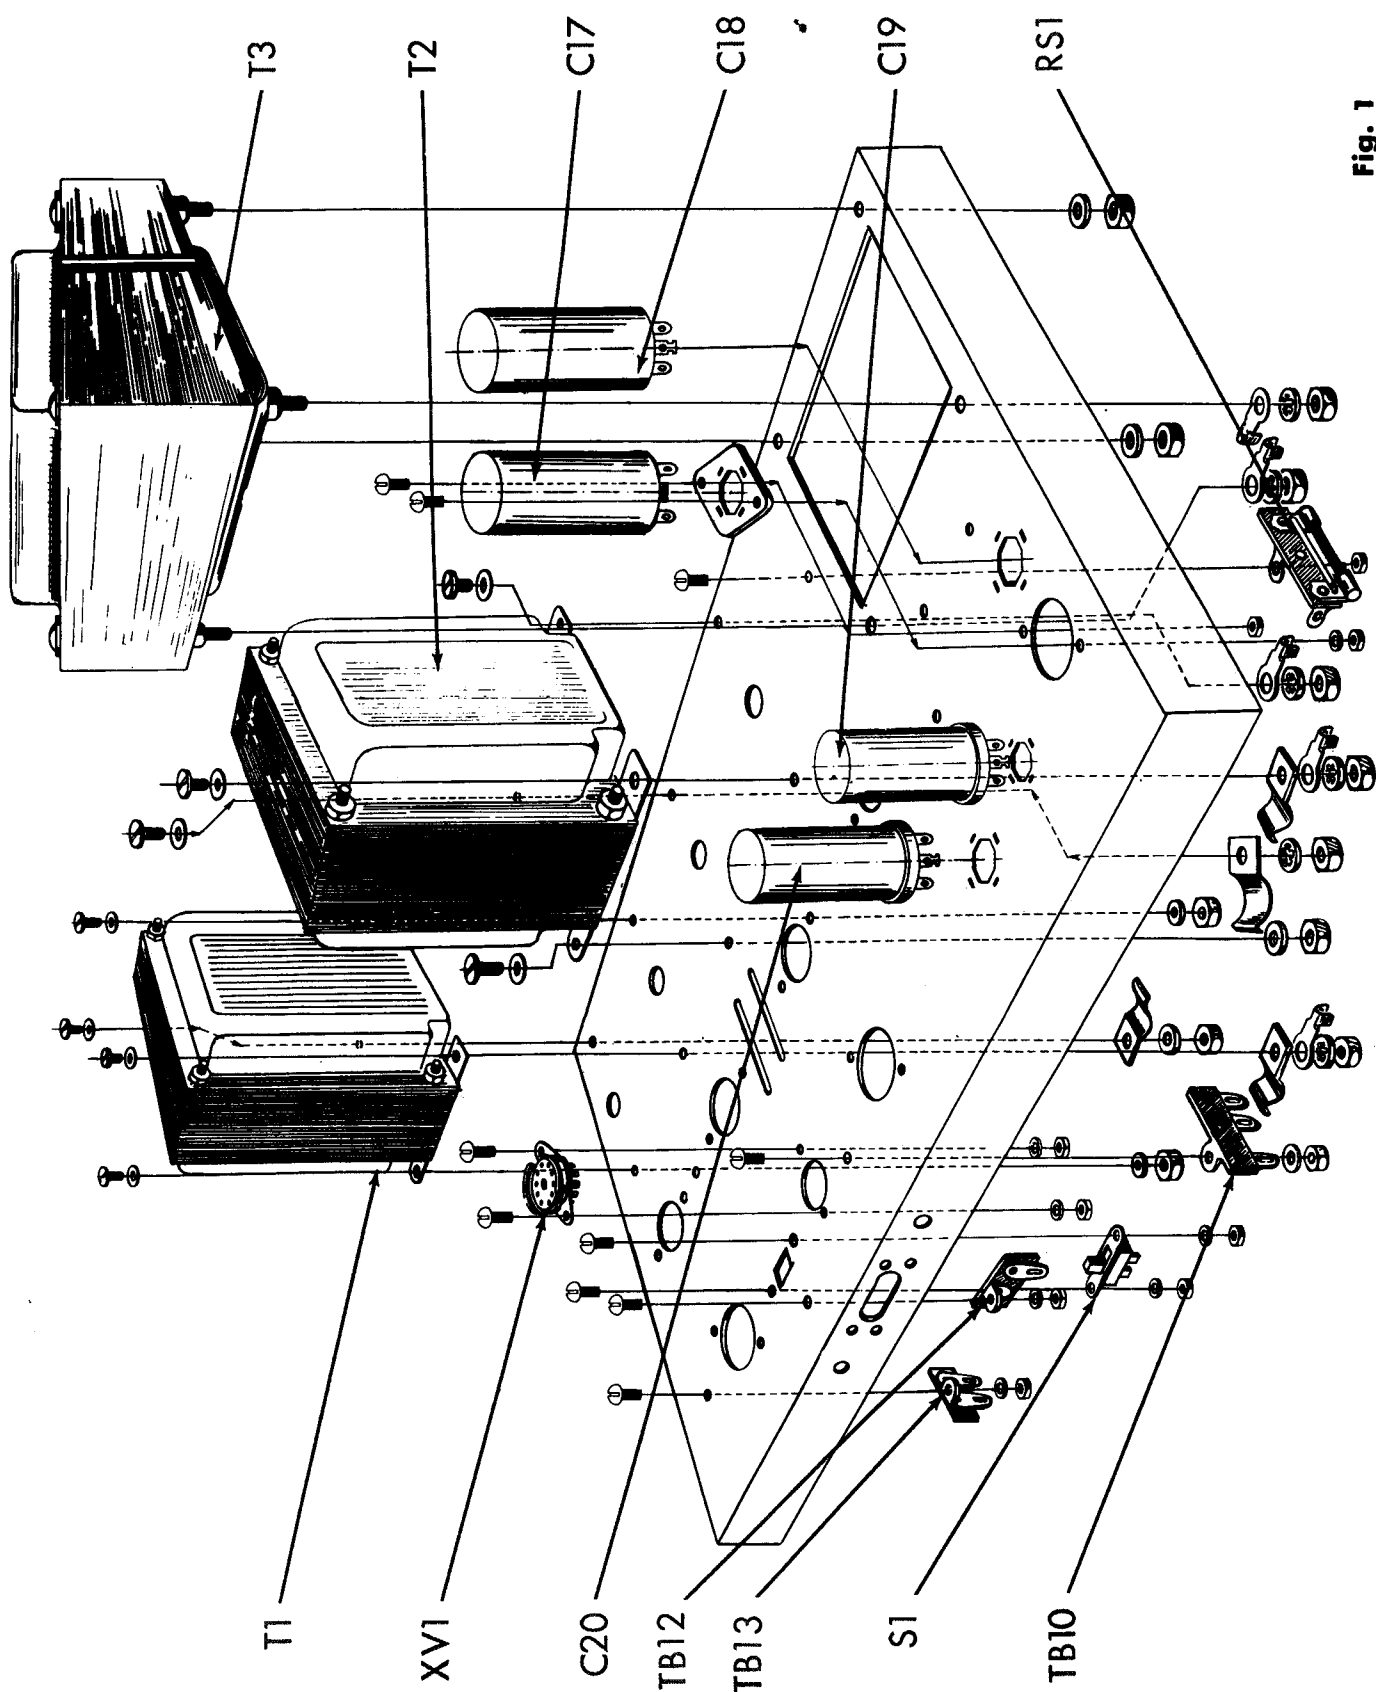
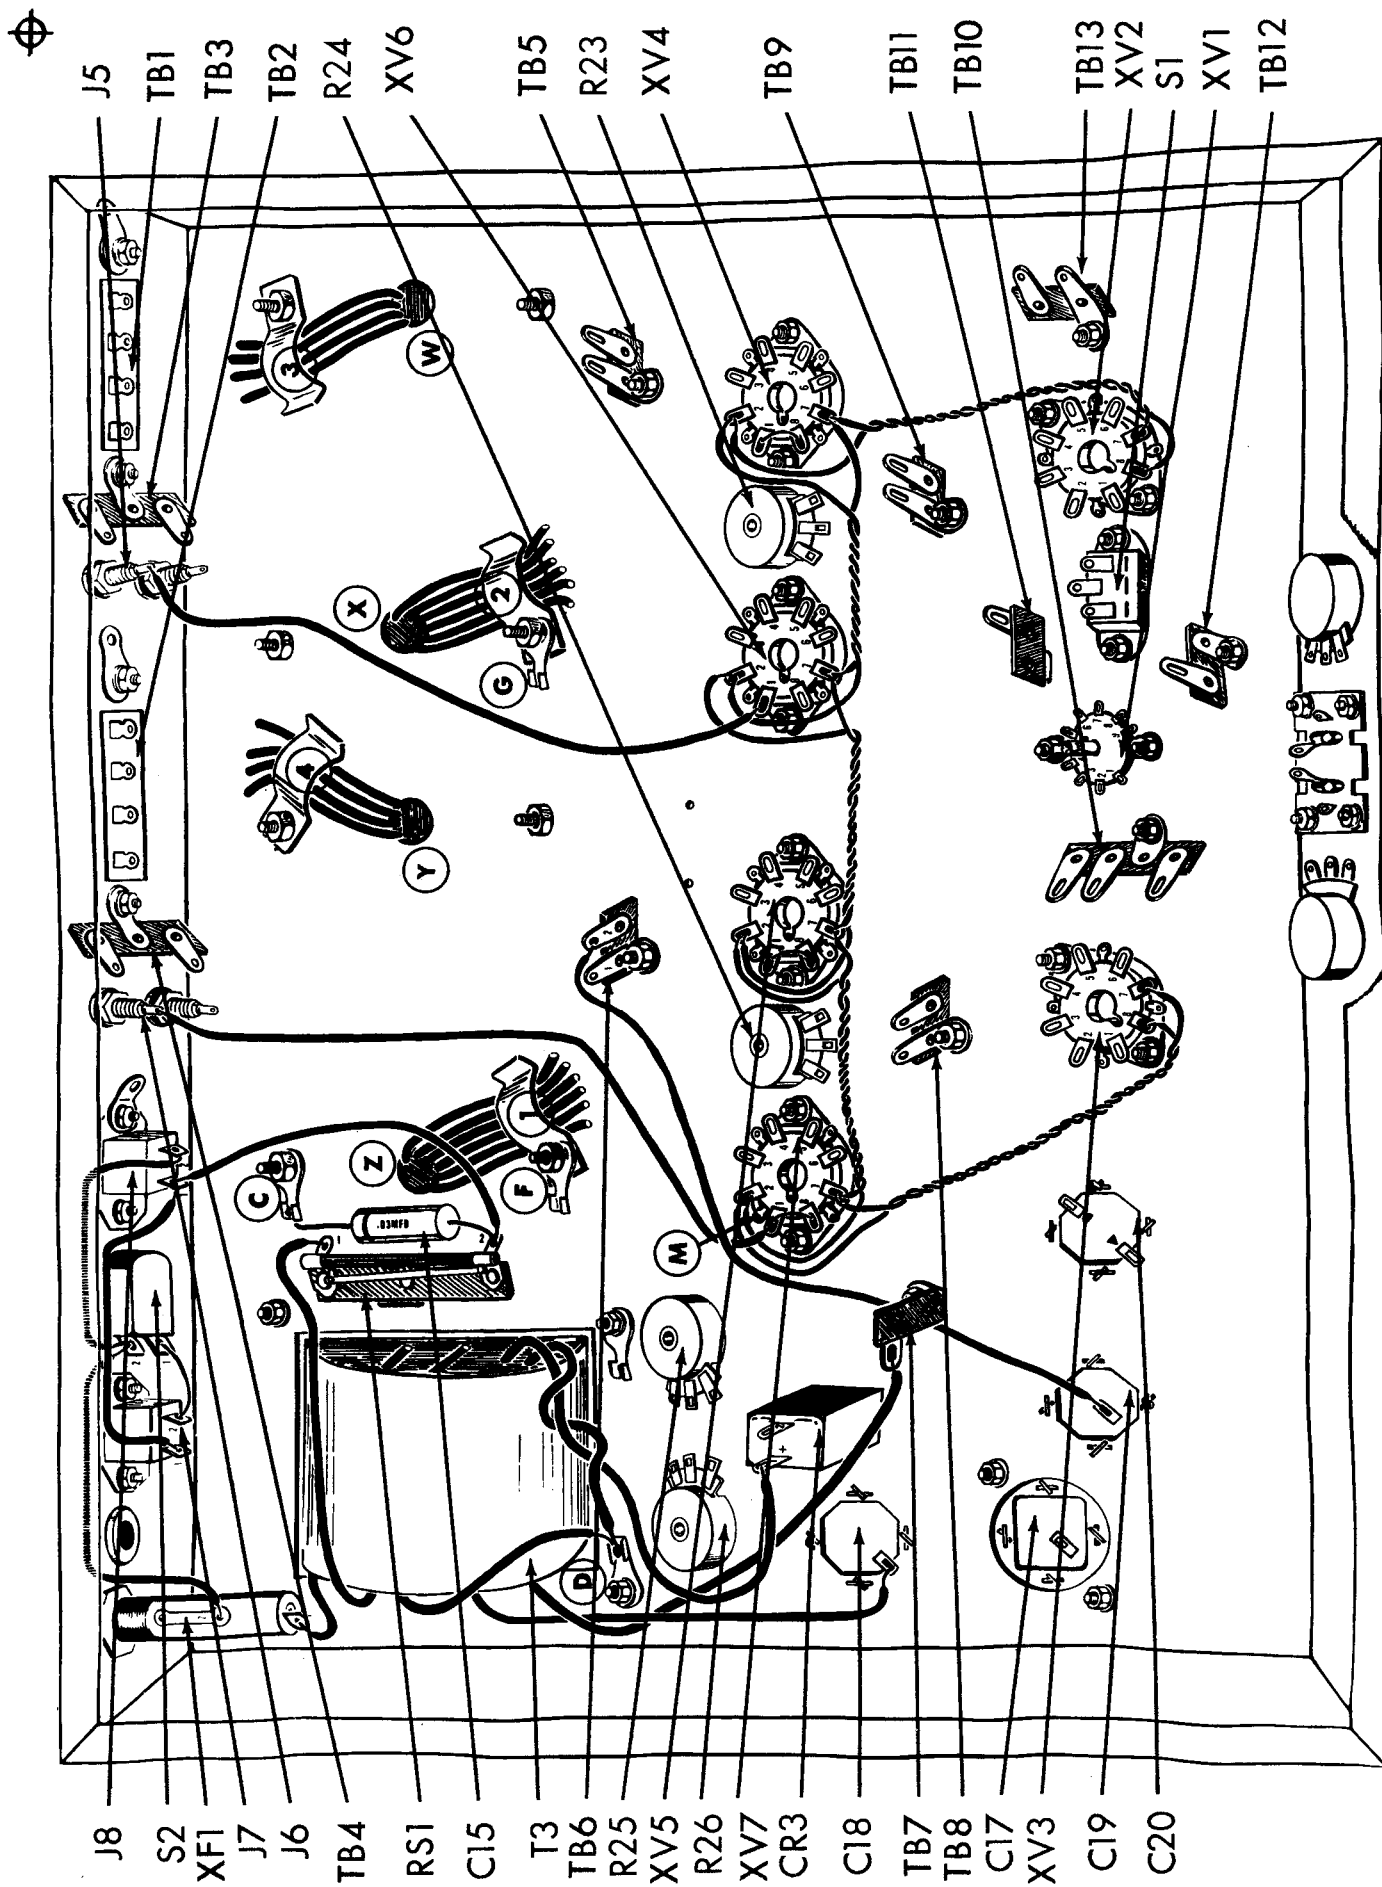

Fig. 1
Fig. 3
( ) 1. Fig. 1. On power transformer T3, cut both green leads to 6", one red lead to 6", the other red lead to 7", the white lead to 3", one black lead to 2", the other black lead to 4", one blue lead to 4" and the second blue lead to 6 1/2". On each of these leads strip the insulation back 1/4". Mount the transformer as shown with the green leads toward the center of the chassis and the black leads close to the side of the chassis. Use four #8 lockwashers and four #8-32 hex nuts to secure the transformer to the chassis. Under each of two of the lockwashers, mount a #8 ground lug, as shown in Figure 3.
( ) 2. Fig. 1. On both output transformers T1 and T2, cut the black lead to 4", the white lead to 4 1/2", the green lead to 5" and the yellow lead to 5 1/2". Cut the blue and blue-yel. leads to 4 1/2" and the brown and brown-yel. to 5 1/2" and the red and red-yellow leads to 6". Strip the insulation back 1/4" from the ends of each of the leads. Mount transformer T2 with black, brown, green, and yellow leads going through hole "Y" and all the remaining leads going through hole "Z". Secure the transformer to the chassis using four #10-32 screws and four #10 flat washers from above the chassis and four #10 lockwashers and four #10-32 hex nuts from below the chassis. Noting the orientation in figure 3, under one of the lockwashers used in the mounting of T2, place cable clamp #1 and the #10 ground lug "F". Run the leads from hole "Z" under this cable clamp #1. Under a second lockwasher used in the mounting of T2, place cable clamp #4. Run the leads from hole "Y" under this cable clamp #4. Mount ground lug "C" under one of the remaining lockwashers used for the mounting of T2 as indicated in the figure.
Mount transformer T1 with the black, white, green and yellow leads going through hole "W" and the remaining leads going through hole "X". Secure the transformer to the chassis using four #10-32 screws and four #10 flat washers from above the chassis and four #10 lockwashers and four #10-32 hex nuts from below the chassis. Noting the orientation in figure 3, under one of the lockwashers used in the mounting of T1, place cable clamp #2 and the #10 ground lug "G". Run the leads from hole "X" under this cable clamp #2. Under a second lockwasher used in the mounting of T3, place cable clamp #3. Run the leads from hole "W" under this cable clamp #3.
( ) 3. Fig. 1. Mount the single pole double throw slide switch S1, from below the chassis, as shown. See figure #3 for orientation. Use two #6-32 screws, two #6 lockwashers and two #6-32 hex nuts.
( ) 4. Fig. 1. From below the chassis, mount the 3 post 2 right terminal strip, TB10; the one post left terminal strip, TB12; and the one post left
with ground terminal strip, TB13, as shown. Orient these terminal strips as shown in figure 3. Use one #6-32 screw, one #6 lockwasher and one #6 hex nut to secure each terminal strip to the chassis.
( ) 5. Fig. 1. Mount the 9 pin miniature socket with shield support XV1, from above the chassis, as shown. Use two #4-40 screws, two #4 lockwashers and two #4-40 hex nuts. Note the orientation of this socket in figure #3.
( ) 6. Fig. 1. Mount the bakelite capacitor mounting plate for C17 from above the chassis, as shown. Use two #6-32 screws, two #6 lockwashers and two #6-32 hex nuts.
( ) 7. Fig. 1. Into the slots in the bakelite capacitor mounting plate (mounted in step #6) insert the tabs from the 300ufd, 300V electrolytic can capacitor, C17. Note the orientation of this capacitor in figure #3. Twist the tabs somewhat less than a quarter turn. Do not twist the tabs excessively or they will shear off. Take precautions so that the tabs used to secure the capacitor to the bakelite will not short against the surrounding metal chassis.
( ) 8. Fig. 1. Mount the 300mf 300 volt electrolytic capacitor C18, as shown. Note the orientation in figure #3. Insert the capacitor mounting tabs into the slots in the chassis and twist the tabs a little less than a quarter turn. Do not twist the tabs excessively or they will shear off. Solder the capacitor tab without a hole to the chassis at the slot in the chassis.
( ) 9. Fig. 1. Mount the 80mf 500 volt electrolytic capacitor C19, as shown. Note the orientation in figure #3. Insert the capacitor mounting tabs into the slots in the chassis and twist the tabs a little less than a quarter turn. Do not twist the tabs excessively or they will shear off. Solder the capacitor tab without a hole, to the chassis at the slot in the chassis.
( ) 10. Fig. 1. Mount the 40-20mfd/500 volt electrolytic capacitor C20, as shown. Note the orientation of the capacitor (half-moon and triangle) in figure #3. Insert the capacitor mounting tabs into the slots in the chassis and twist the tabs a little less than a quarter turn. Do not twist the tabs excessively or they will shear off. Solder the capacitor tabs without a hole to the chassis at the slot in the chassis.
( ) 11. Fig. 1. Mount the surgeistor RS-1, as shown. Use one #6-32 screw, one #6 lockwasher and one #6 hex nut to secure this component to the chassis. Note the orientation in figure #3.
- ( ) 1. Fig. 3. Connect an 8 1/2" piece of red wire from C19 (C) to TB6-2 (C). Run this lead along the chassis as shown.
- ( ) 2. Fig. 3. From power transformer, T3, connect the white lead to ground lug "D" (C), the short black lead to XF1-1 (C) and the longer black lead to RS1-1 (C). Twist the two red leads together as shown. Connect one red lead to C18 (C) and the second red lead to TB7 (C). Twist the two blue leads together. Connect one blue lead to ground lug "D" (S2) and the second blue lead to CR3-1 (S1). Do not use excessive heat when soldering to CR3.
- ( ) 3. Fig. 3. Connect a 4 1/2" piece of grey wire from XF1-2 (S1) to S2-2 (C).
- ( ) 4. Fig. 3. Connect a 4" piece of gray wire from S2-2 (S2) to J8-2 (S1).
- ( ) 5. Fig. 3. Connect a 1 1/4" piece of bare wire from J7-2 (C) to S2-1 (S1).
- ( ) 6. Fig. 3. Connect a 5" piece of gray wire from J7-1 (C) to J8-1 (C).
- ( ) 7. Fig. 3. Connect a 4" piece of grey wire from J8-1 (S2) to RS1-2 (C).
- ( ) 8. Fig. 3. Cut both leads on a .03mfd (orange, black, orange, black, blue) molded capacitor C15 to 1". Connect one lead to RS1-2 (S2) and the second lead to ground lug "C" (S1).
- ( ) 9. Fig. 3. Connect one end of a six inch piece of yellow wire to XV4-2 (C) and one end of a 5" piece of brown wire to XV4-7 (C). Twist the two leads together and run them along the chassis as shown. Connect the other end of the yellow wire to XV2-7 (S1) and the other end of the brown wire to XV2-8 (S1).
- ( ) 10. Fig. 3. Connect one end of a 7" piece of yellow wire to XV4-2 (S2) and one end of a 4" piece of brown wire to XV4-7 (S2). Twist the two leads together and run them along the chassis as shown. Connect the remaining end of the yellow wire to XV6-2 (C) and the other end of the brown wire to XV6-7 (C).
- ( ) 11. Fig. 3. Connect one side of a 7" piece of yellow wire to XV6-2 (S2) and one side of a 4" piece of brown wire to XV6-7 (S2). Twist the leads together and run them along the chassis as shown. Connect the other end of the yellow wire to XV5-2 (C) and the other end of the brown wire to XV5-7 (C).
- ( ) 12. Fig. 3. Connect one end of a 7" piece of yellow wire to XV5-2 (S2) and one end of a 4" piece of brown wire to XV5-7 (S2). Twist the two leads together and run them along the chassis as shown. Connect the other end of the yellow wire to XV7-2 (C) and the other end of the brown wire to XV7-7 (C).
- ( ) 13. Fig. 3. Connect one end of an 8" piece of yellow wire to XV7-2 (C) and one end of a 7" piece of brown wire to XV7-7 (C). Twist the two leads together and run them along the chassis as shown. Connect the other end of the brown wire to XV3-8 (S1) and the other end of the yellow wire to XV3-7 (S1).
- ( ) 14. Fig. 3. Connect a 3/4" piece of bare wire from XV7-2 (C) to ground lug "M" (S1) at XV7.
- ( ) 15. Fig. 3. Connect a 3/4" piece of bare wire from XV7-1 (C) to XV7-8 (S1).
- ( ) 16. Fig. 3. Connect a 3/4" piece of bare wire from XV5-1 (C) to XV5-8 (S1).
- ( ) 17. Fig. 3. Connect a 3/4" piece of bare wire from XV6-1 (C) to XV6-8 (S1).